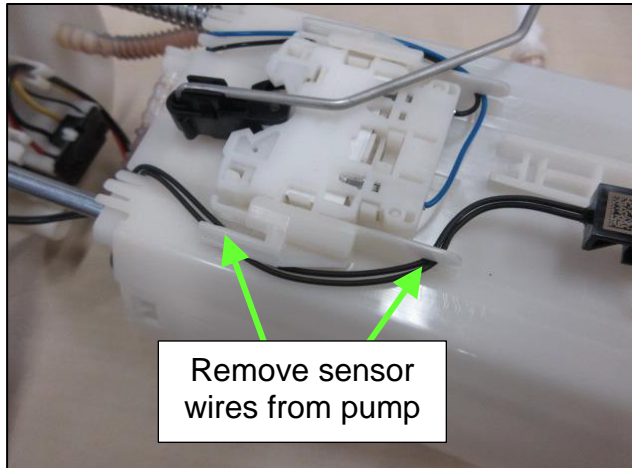
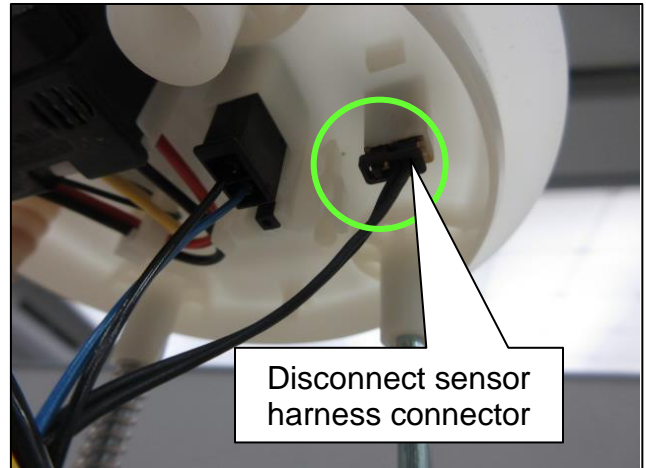

Figure 10
Figure 11
6. After removing the fuel temperature sensor, remove the sensor wires from the pump as shown in Figure 10 and disconnect the sensor harness connector from the fuel pump as shown in Figure 11.